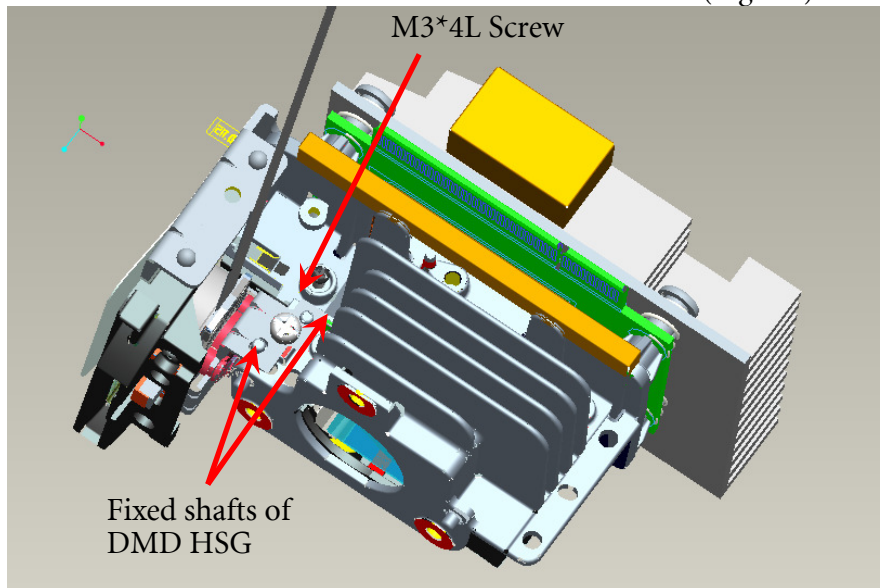

Fig.7-4
7.5 Assemble “CW Module” to “DMD HSG” and lock with screws well (Fig.7-4).